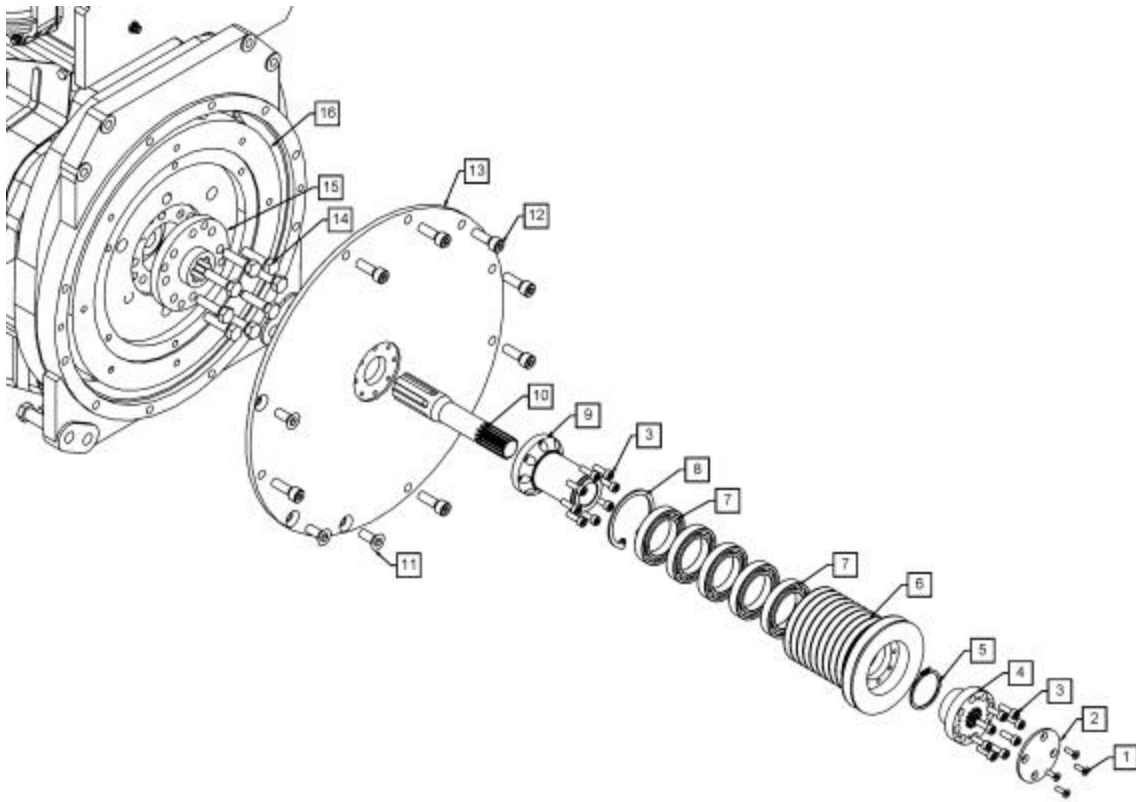

Fig. 38 — PTO Drive Sheave/Bearing Assembly
- Tighten the Puller Bolt (4), to pull the Sheave/Bearing Assembly off of the Bearing Support (Fig. 38, #9).